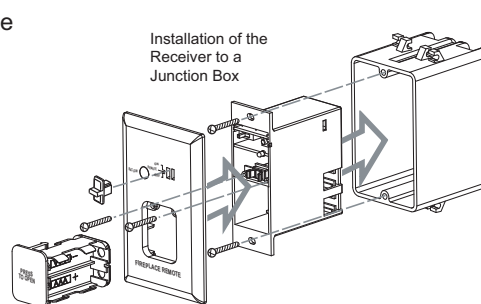

Figure 2
SETTING THE CLOCK / TEMPERATURE MODE. See Figure 2
- Use the screws provided to secure the face blade to the Remote Receiver. See *Figure 2*.